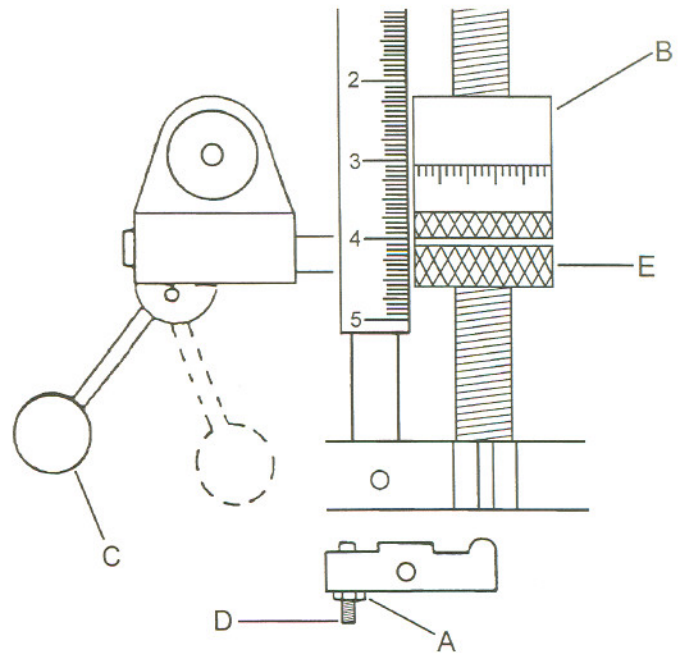

Fig. 10
1. Loosen locknut (A, Fig. 10).
2. Engage trip handle (C, Fig. 10) by pulling away from head assembly.
3. Adjust micro nuts (E, Fig. 10) against quill stop (B, Fig. 10).
4. Slowly turn adjusting screw (D, Fig. 10) until lever (C, Fig. 10) trips.
5. Tighten locknut (A, Fig. 10).